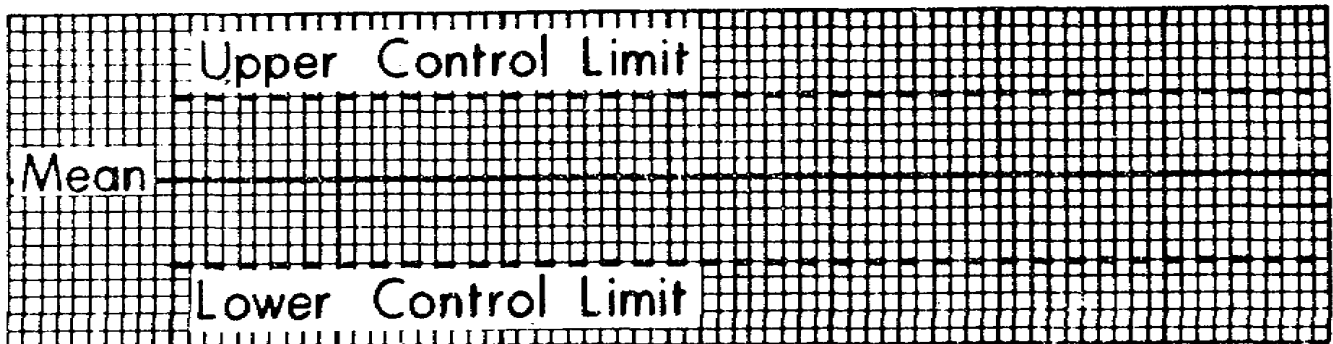

Figure 27
c. The broken lines (figure 27) represent the control limits of the process. The area between these lines is the maximum variation (above and below the target line) permissible to maintain the desired quality in the end product.
Figure 27 illustrates the basic construction of any control chart. The actual number value these lines represent in practical application are determined by the individual process being monitored.